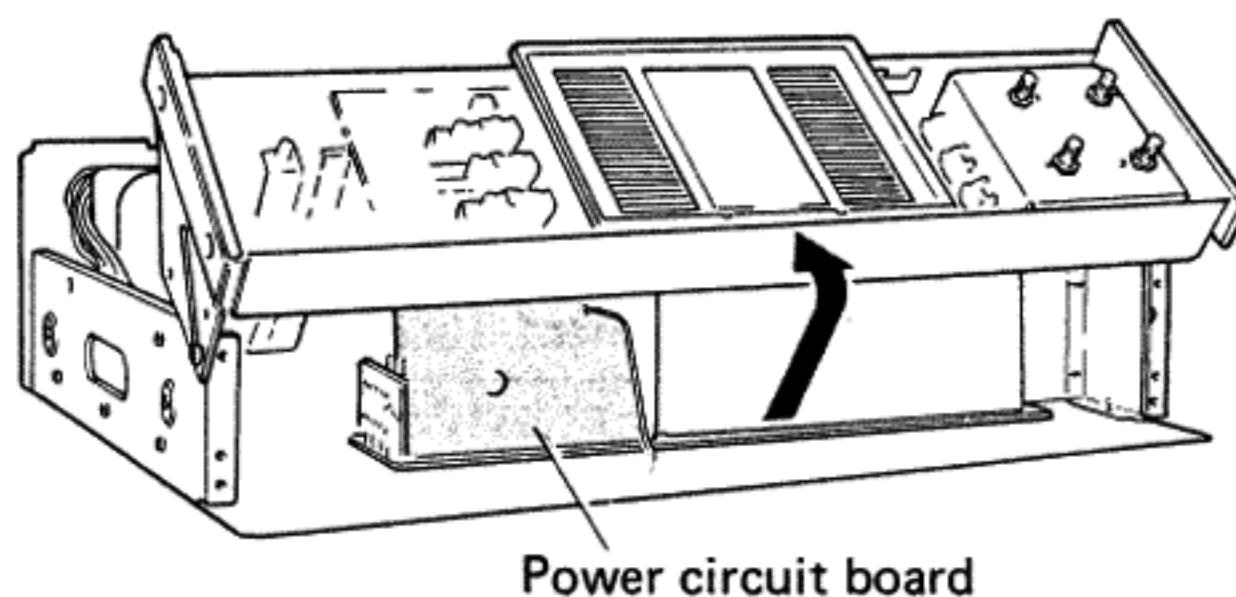

Fig. 8
- Open the sub-chassis as shown in Fig. 8. In this condition it is possible for you to check the power circuit board and to replace the parts.